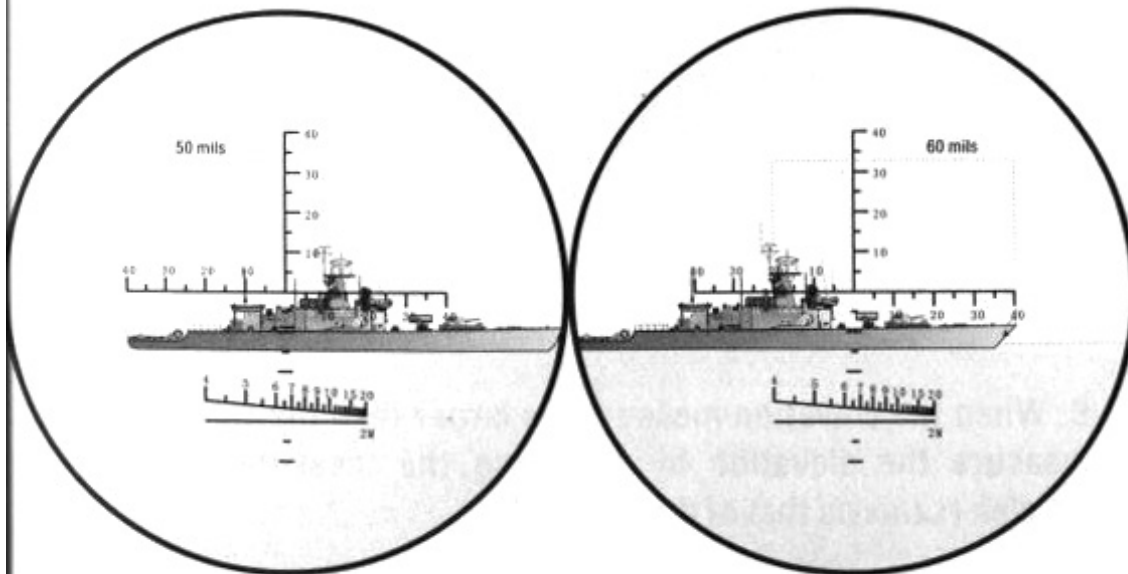

Fig. 32
B. When the azimuth of "Object" measured is larger than the reticle range ( $\pm 40$  mils), measure the azimuth by fitting vertically "Object" with reticle and summing the measurements of reticles. For an example shown in Fig. 32, the azimuth of "Cruiser" as "Object" is measured to be 110 mils (50 mils + 60 mils = 110 mils).